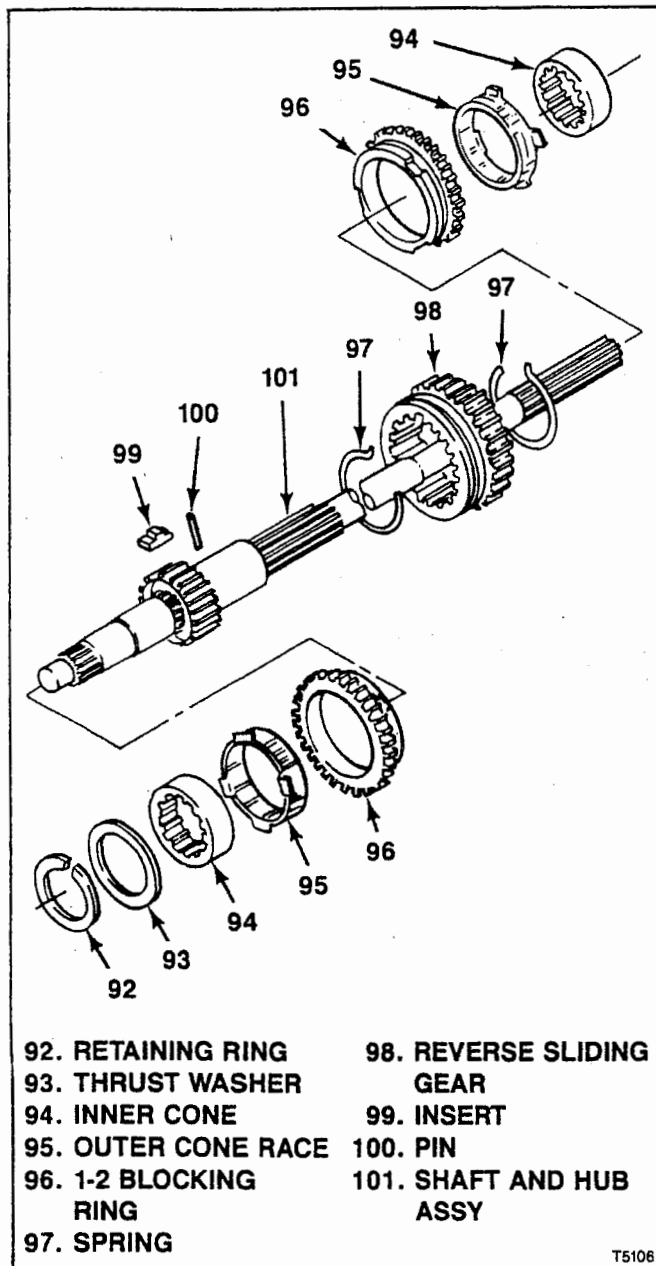
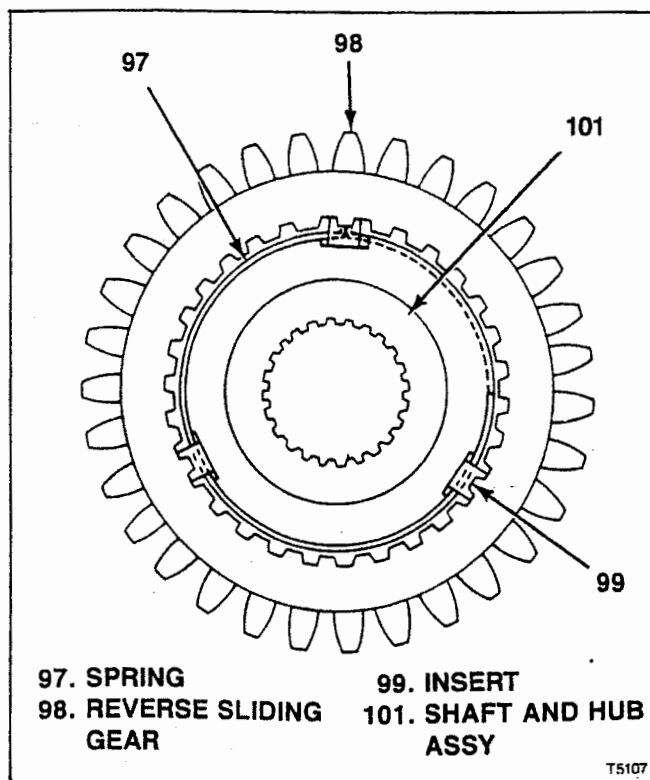

Figure 6-7. T5 WC Output Shaft Assembly
Figure 6-8. Reverse Sliding Gear Assembled
6-10. ASSEMBLY OF T5 WC OUTPUT SHAFT ASSEMBLY. On work bench, assemble output shaft assembly as follows (see figure 6-7):
- a. Install pin (100) in shaft and hub assembly (101).
- b. Be sure to assemble reverse sliding gear (98) and hub on shaft and hub assembly (101), aligning marks made at disassembly (see figure 6-8) so that clutch teeth and part faces are assembled exactly as they were originally.
- c. Start reverse sliding gear (98) onto hub on shaft and hub assembly (101) to a position that will just permit installation of inserts (99). Install inserts (99) then engage clutch teeth fully.
- d. Hook one end of one spring (97) under one of the inserts (99) and wrap around inside, under all three inserts. Hook other end of spring under insert (see figure 6-8).
- e. At other side of assembly hook remaining spring (97) under opposite end and side of same insert (99) where step d was started but wrap around inside in opposite direction from step d, under all three plates. Hook other end of spring under insert (99) (see figure 6-8).
- f. Position reverse sliding gear (98) and inserts (99) so that all inserts snap into neutral position.
- g. At each end of shaft and hub assembly (101) install 1-2 blocking ring (96), outer cone race (95) and inner cone (94), noting the correct position and location of these parts as shown in figure 6-7. Be sure to align blocking ring notches with inserts (99).
- h. At second speed end of shaft and hub assembly (101), install thrust washer (93) and retaining ring (92).